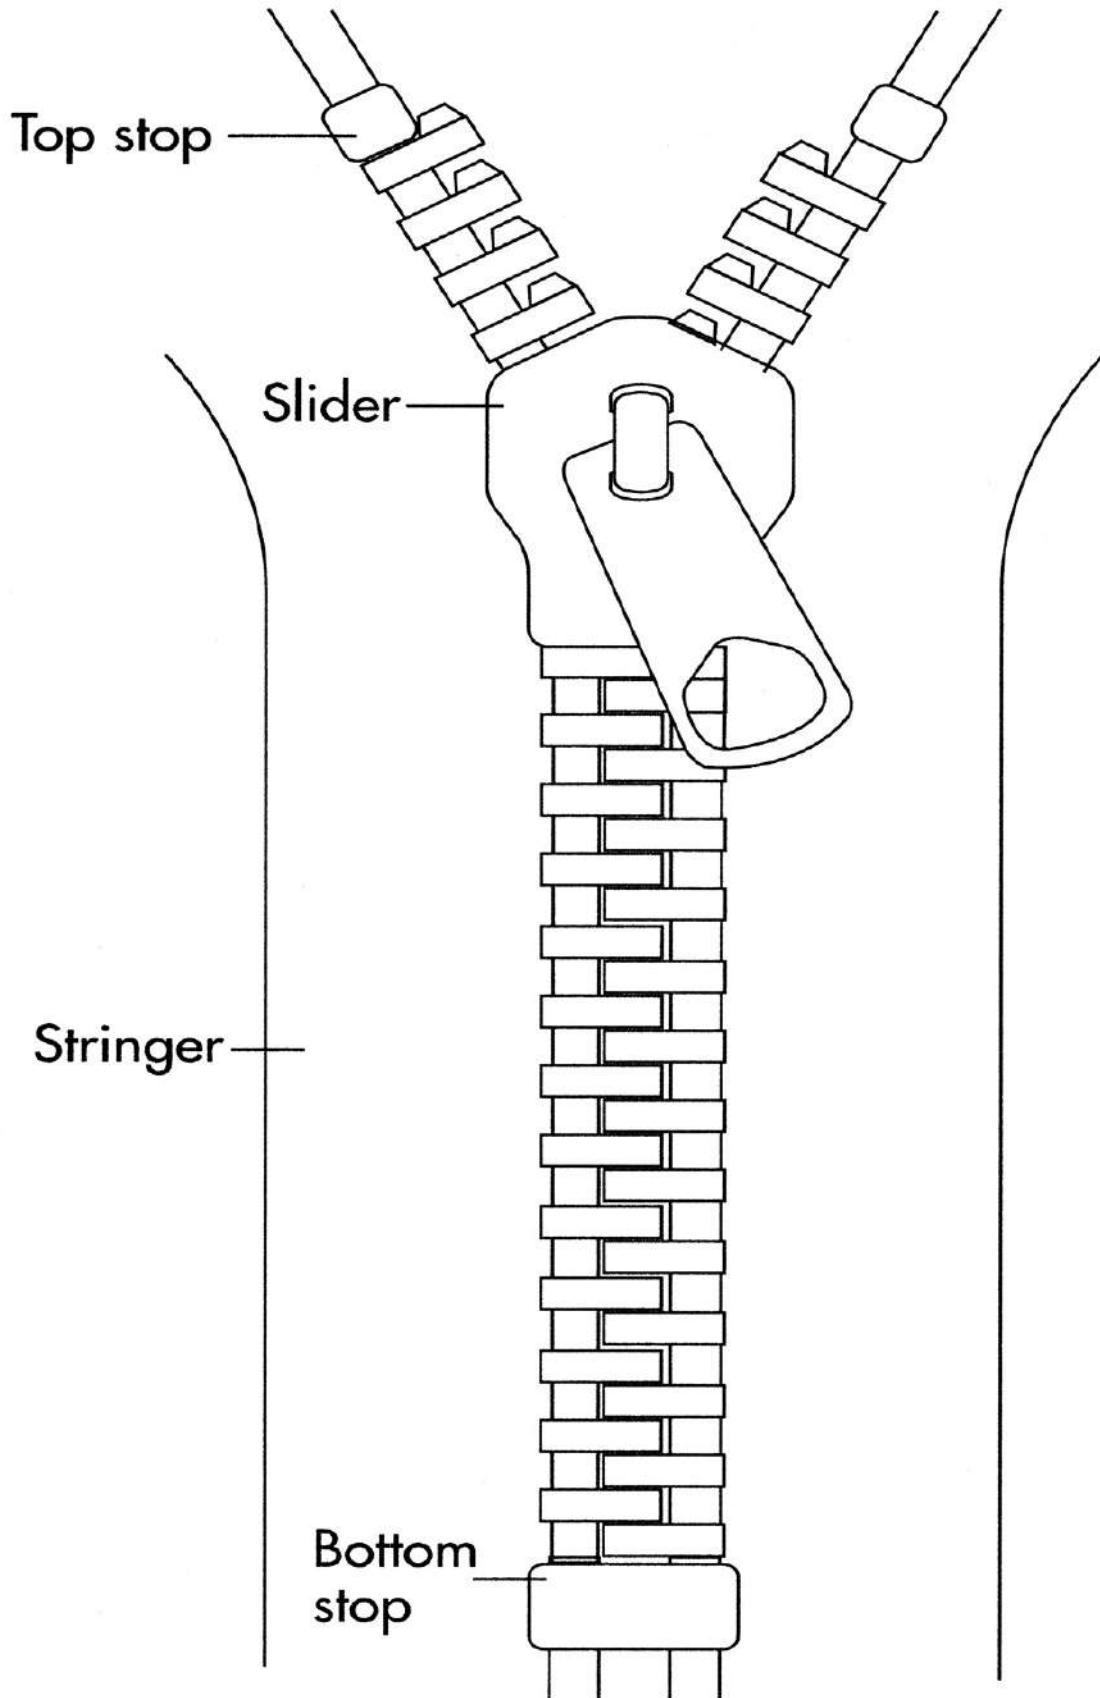

Figure 1. The basic elements of a zipper.
Instead of a bottom stop to connect the stringers, a separating zipper has two devices—a box and a pin—that work as stops when put together (see figure 1).
1. A stringer consists of the tape (or cloth) and teeth that make up one side of the zipper (see figure 1). Early production methods were slow and tedious. Faster manufacturing methods, originating in the 1940s, involved a flattened strip of wire passing between a heading punch and a pocket punch to form scoops. A blanking punch cuts around the scoops to form a Y-shape. The legs of the Y are then clamped around the cloth tape.